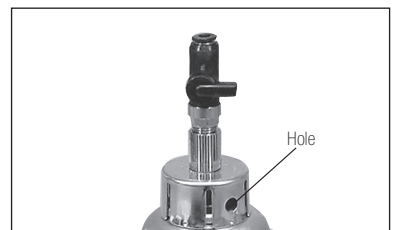

Fig. 14
- (2) Insert the tip of a screwdriver (approx. 4 mm in diameter) into the hole on the side of the ON/OFF Valve cap. (Fig. 14)